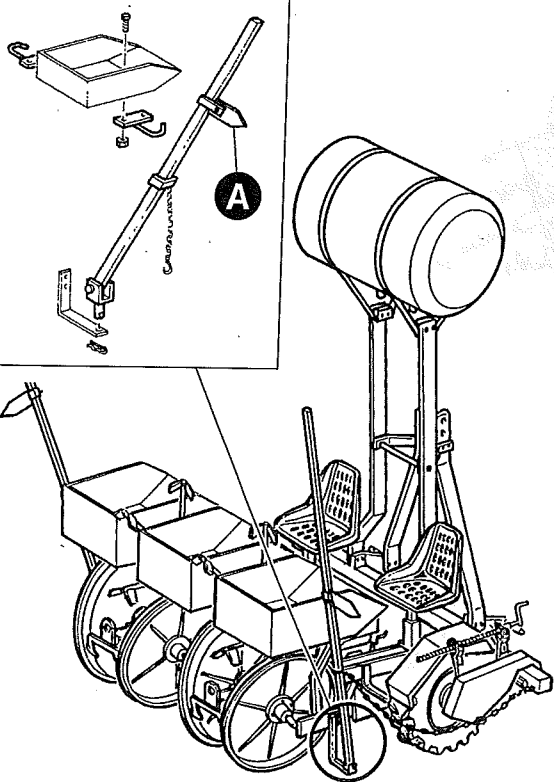

FIG. 20
24.1 - ROW MARKERS: fit as shown in (fig. 20) and adjust the point of the marker to the desired distance (fig. 20.A). Positioning on the ground and lifting are manual. Carry out these operations with the machine stationary and make certain that there is nobody in the area in question.
The tank supplies the watering device and must be positioned as shown in fig. 20. When this accessory is fitted, the weight of the fully loaded transplanter is increased by about 360 kg, so use only a tractor with **power of at least 10 HP / 7.5 kW more** than indicated in point 4.0.